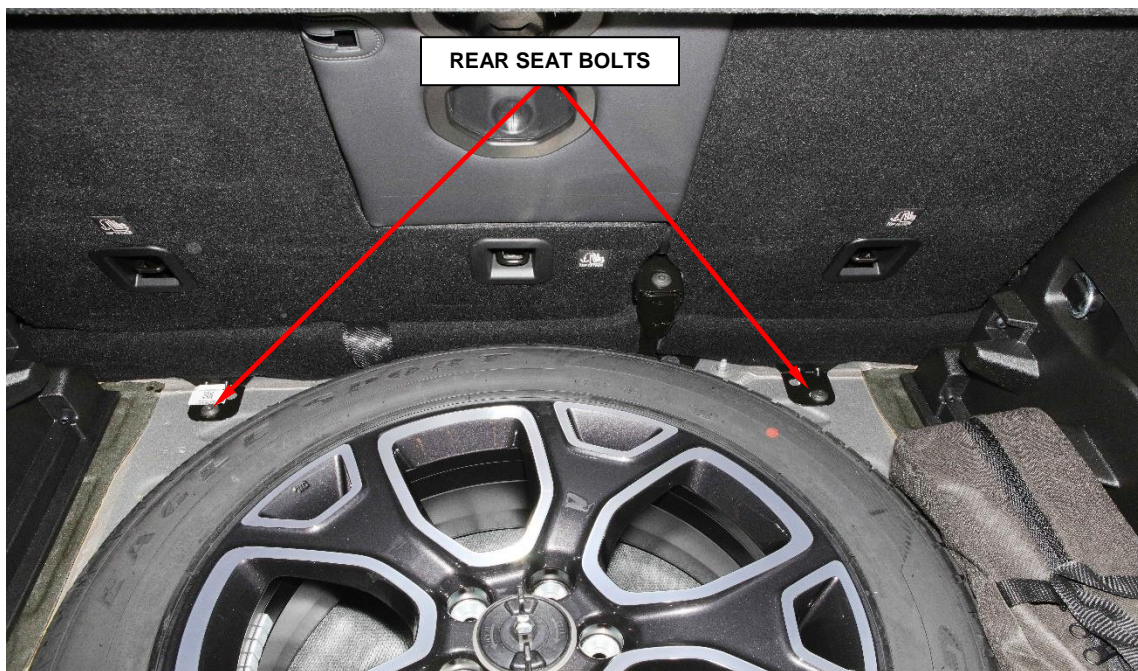

Figure 7 – Rear Seat
38. Fold the rear seat backs forward and remove the bolts at the rear of the seat cushion (Figure 7).